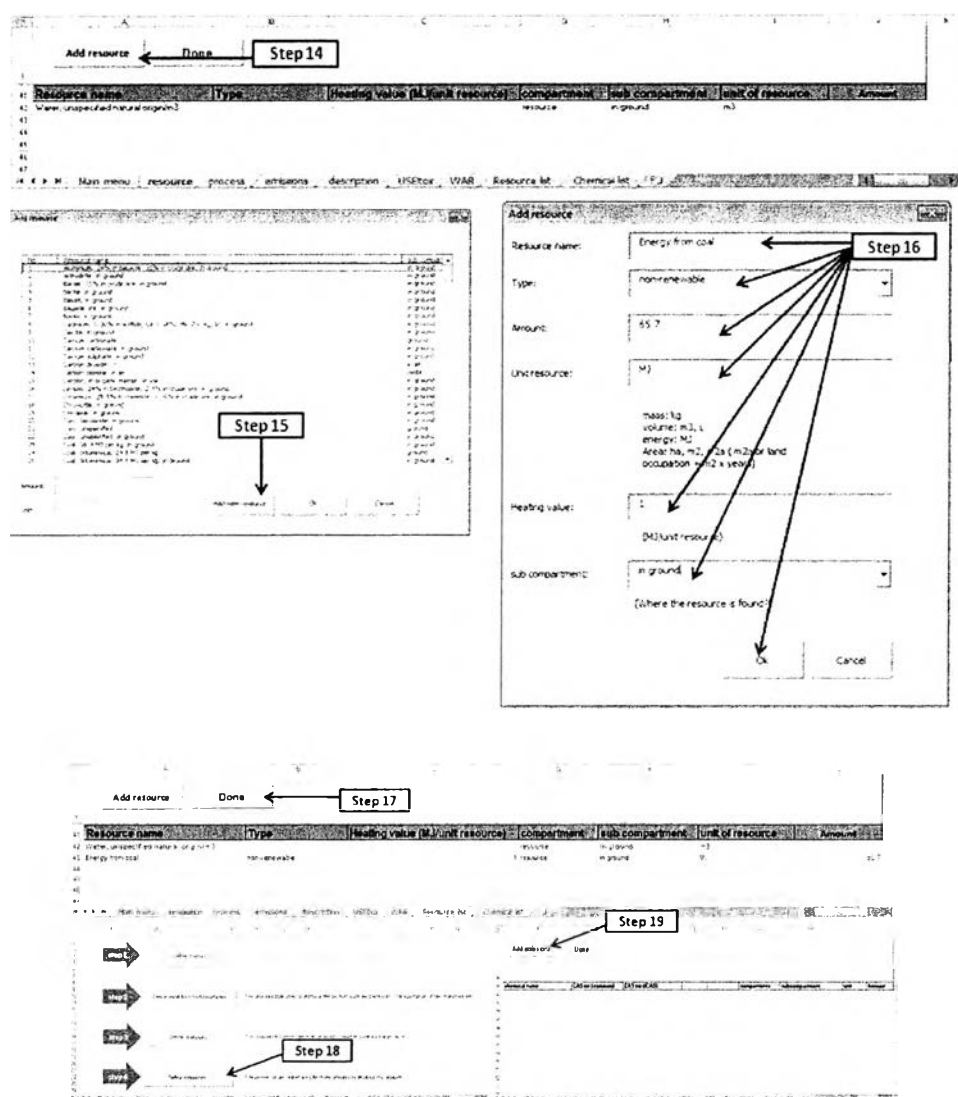

Figure A.47 Steps to generate LCI data (continued)
Step 14: Add resource which is Energy from coal; compartment resource; sub compartment in ground 65.7 MJ (Heating value = 1 MJ/MJ from coal). Click “Add resource” in “resource” page (Figure A.47)